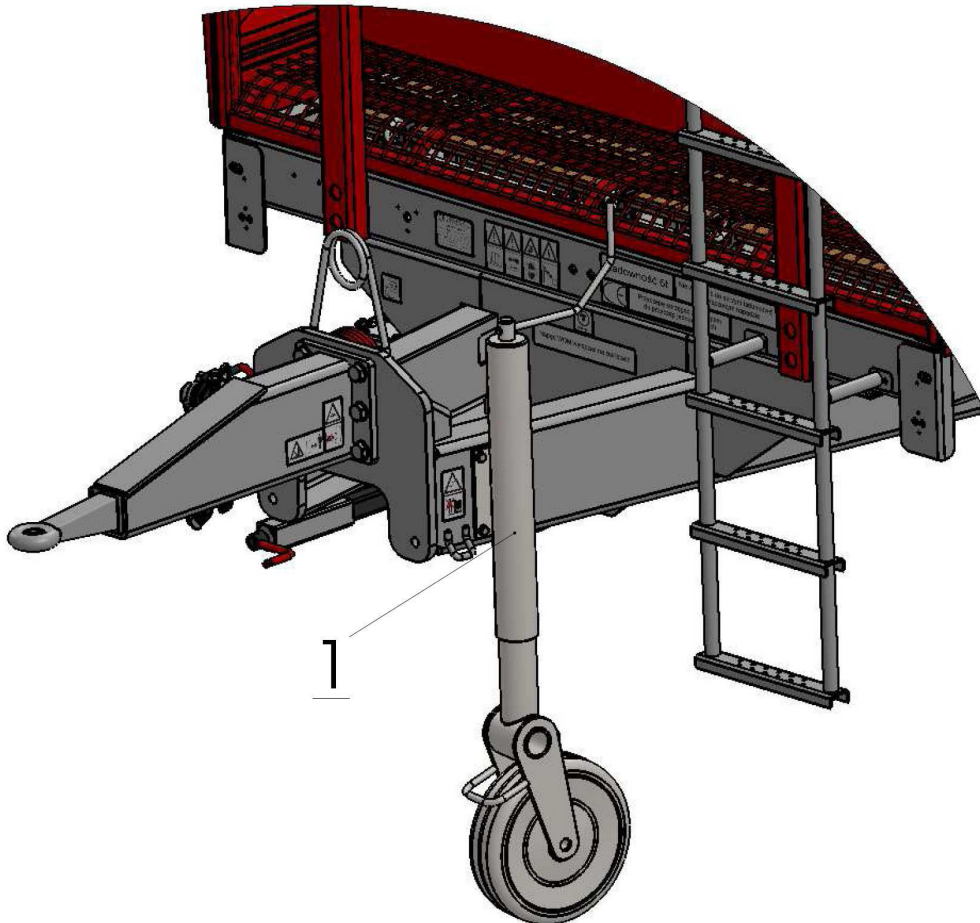

Fig. 2 N280 spreader's support wheel.
Before disconnecting the spreader from the tractor, first engage the machine parking brake and lower the support wheel – see fig. 2 item 1.